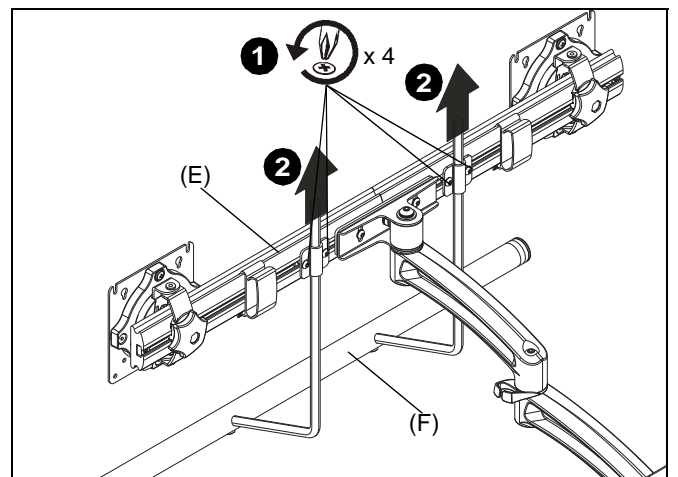

Figure 9
1. Loosen four screws securing handle brackets to K2P22H array. (See Figure 9)
2. Install uprights of handle (J2) into handle brackets located on the back of K2P22H array. (See Figure 9)